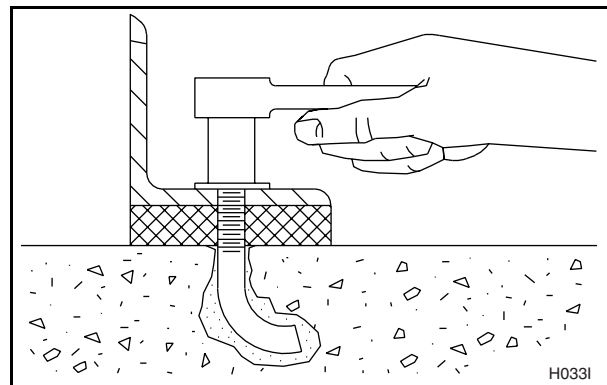

Figure 26
11. After the grout is completely dry, tighten locknuts by even increments—one after the other—until all are tightened evenly and the base frame is fastened securely to the floor. See Figure 26.
If grouting is not desired, position washers and locknuts on J-bolts and tighten the locknuts by even increments—one after the other—until all are tightened evenly and the machine is fastened securely to the floor. See Figure 26.